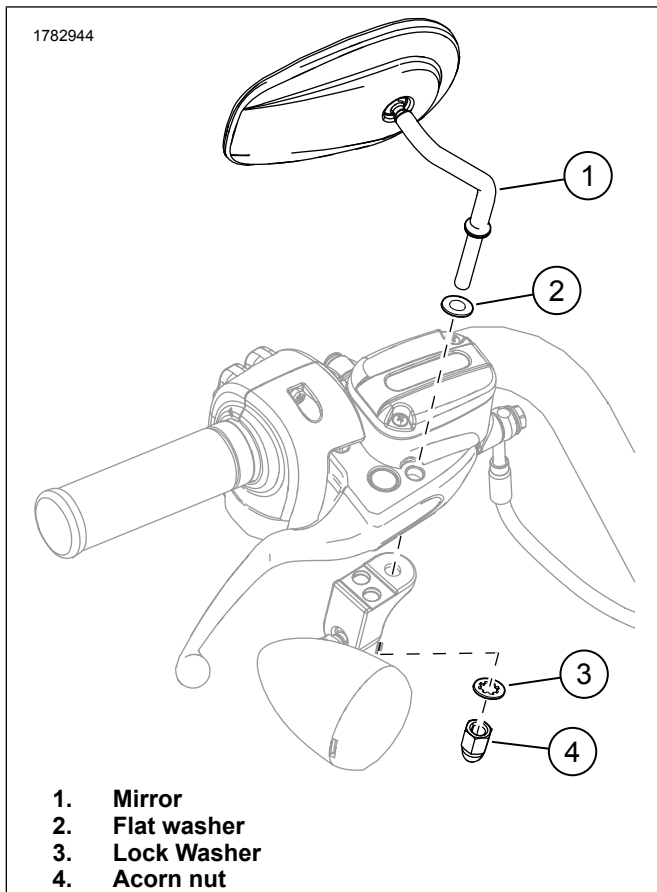

Figure 2. Mirror Assembly
2. See Figure 2. Install flat washer (2) on mirror stud.
3. **Vehicles with turn signals mounted to underside of hand lever housings (except 2004 and later XL models):** Secure mirror using lockwasher (3) and acorn nut (4).
- b. Secure mirror with flat washer (2), lockwasher (3) and acorn nut (4).